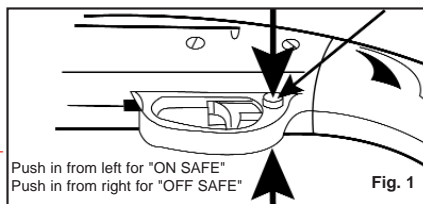

Fig. 1
- Push the safety from the left side all the way in (Fig. 1). The safety is not "ON SAFE" unless it is pushed all the way in and the RED ring around the safety is NOT showing.